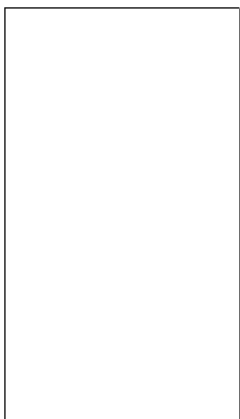

**Figure 4-6:** A rectangle drawn by using absolute coordinates.
4. Choose View ⇄ Zoom ⇄ Zoom Out from the menu. If you still can't see the entire rectangle, choose Zoom Out again until you can see it. Your picture should look like Figure 4-6.